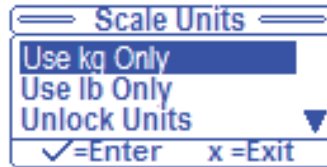

Figure 2 – Scale Units: current state
2. The Scale Units screen will display (Figure 2) with the highlighted item as the current state.